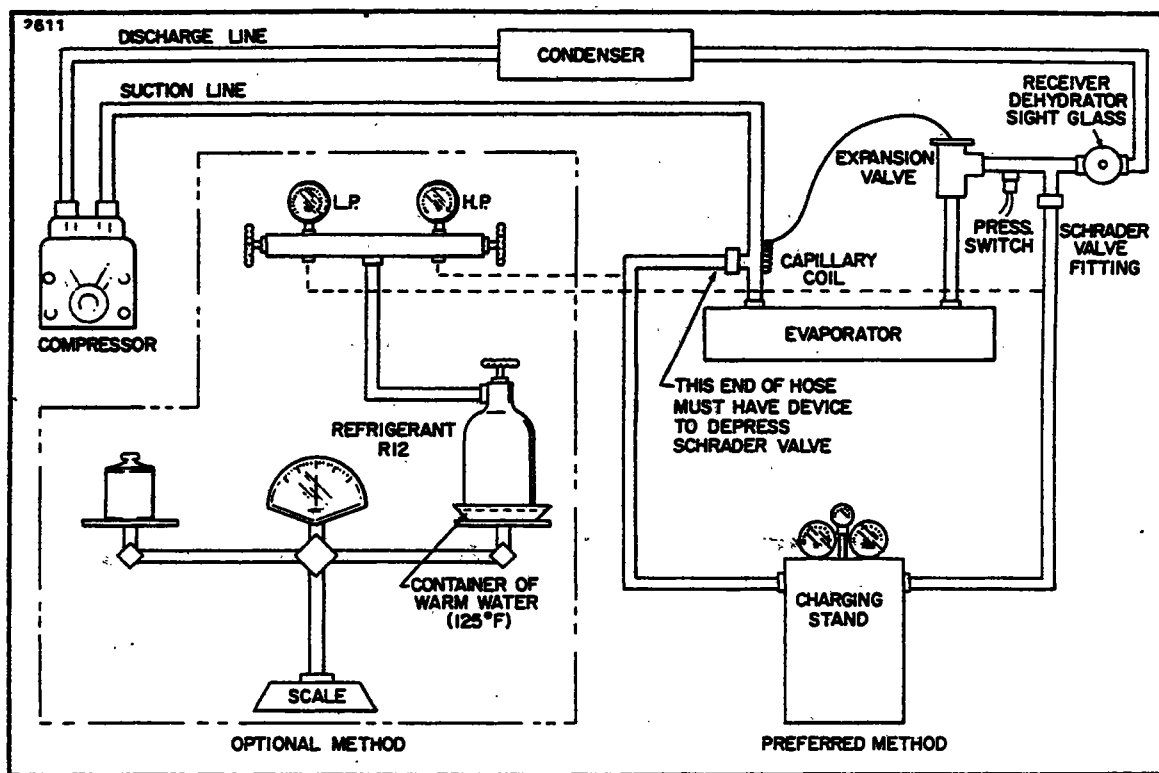

Figure 14-8. Charging Hookup
- a. With the system discharged and evacuated, proceed to hook-up the charging stand. (Refer to Figure 14-8.)
- b. Fill the charging cylinder by opening the valve (8) at the base of the charging cylinder and filling the sight glass with two pounds of liquid refrigerant.
- c. As refrigerant stops filling the sight glass, open the valve (24) at the top of the gauge neck assembly intermittently to relieve head pressure and allow refrigerant to continue filling the sight glass to the required amount.
- d. When refrigerant reaches the required level in the sight glass, close both the valve (8) at the base of the cylinder and the valve (21) at the bottom of refrigerant tank. Be sure the top valve (24) is fully closed.
- a. With the system evacuated as outlined in Paragraph 14-13, connect the refrigerant charging hose to the manifold (refer to Figure 14-8) and purge the charging hose of air.
- b. Connect a charging hose to a refrigerant cylinder and also to the Schrader valve fitting on the suction line. (Refer to Figure 14-8.)